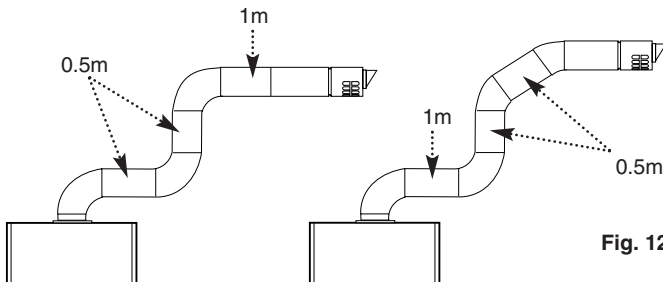

Fig. 12
**The maximum permissible equivalent flue length is: 4 metres horizontal** (Fig. 12).